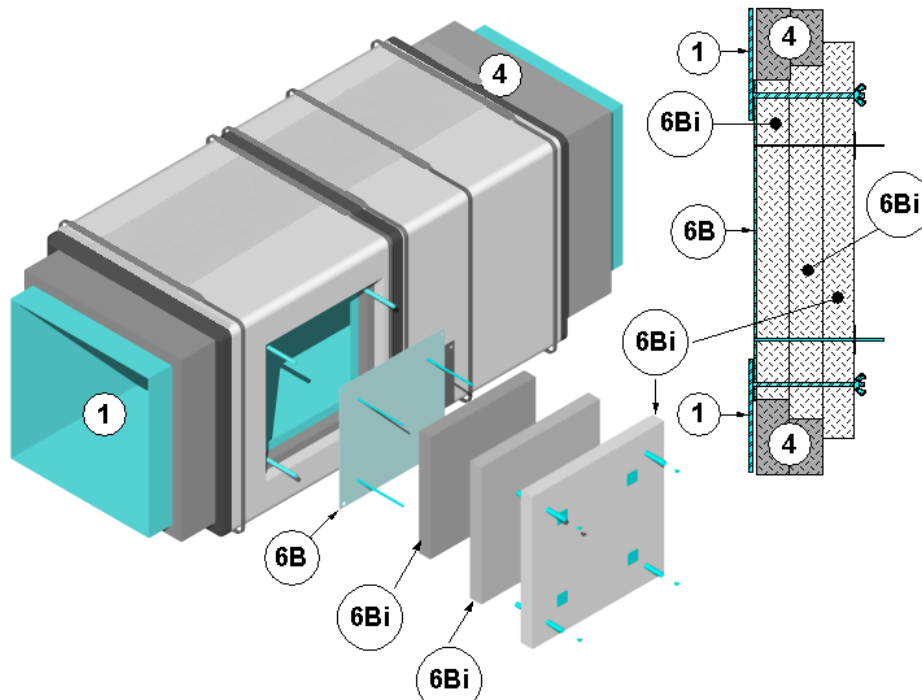

Figure 3 – Field Fabricated Access Door
- B. OPTIONAL FIELD-FABRICATED ACCESS DOORS – Refer to Figure 3. Mark a clean-out access opening location on the insulated grease duct (Item 1) at its mid-height along the horizontal section. Cut a 26 in. x 20 in. opening in the duct insulation (Item 4). Remove and discard the cut duct insulation (Item 4). Cut and center a 24 in. x 18 in. opening into the side of the grease duct (Item 1) by maintaining a 1 in. clearance between the perimeter of the opening and the cut duct insulation (Item 4). Remove and discard the cut steel. Weld four min. 4 in. long, 1/4 in. diameter, all-thread steel rods to the grease duct (Item 1). Locate one steel rod at each corner of the grease duct (Item 1) opening so that they are 11 in. oc and squared within the duct insulation (Item 4) opening.
ACCESS INSULATION – Refer to Figure 3. Apply three layers of access insulation over the field-fabricated access door (Item 6B) as follows. Cut the first piece of access insulation a min. 1 in. larger than the